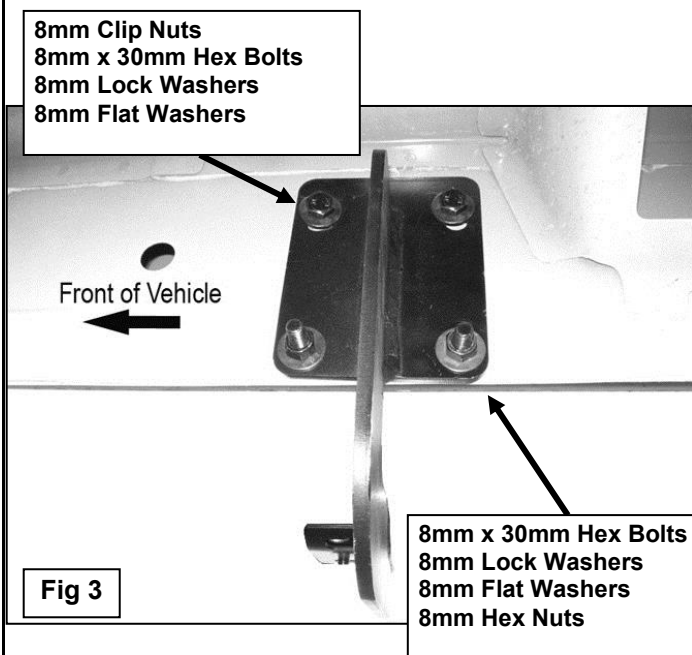

Fig 3
- Partially attach the passenger side front Mounting Bracket to the Clip Nuts using the included (2) 8mm x 30mm Hex Bolts, (2) 8mm Lock Washers and (2) 8mm Flat Washers, (Figure 3). **NOTE:** Cradles on the Mounting Brackets should face the front of the vehicle.
- Bolt the (2) bottom holes in the Mounting Bracket to the (2) holes in the pinch weld using the included (2) 8mm x 30mm Hex Bolts, (2) 8mm Lock Washers, (4) 8mm Flat Washers and (2) 8mm Hex Nuts, (Figure 3). Do not tighten hardware at this time.
6. Carefully unwrap and position the Sidebar onto the (2) Mounting Brackets. Bolt the Sidebar to the Brackets with (4) 8mm x 25mm Hex Bolts, (4) 8mm Lock Washers, and (4) 8mm Flat Washers, (**Figures 3 & 4**). Do not tighten at this time.